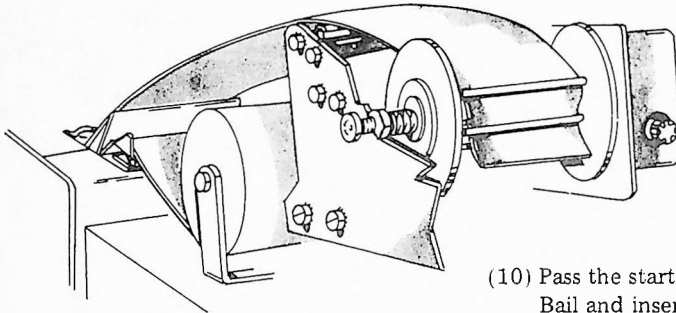

Figure 3-3. Paperwinder Threading Diagram
If a Paperwinder assembly is being used, leave the Power Switches in the OFF position and complete the threading procedure described below. Refer to Figure 3-3.
- (10) Pass the starting edge of the paper over the Paperwinder Bail and insert it between any two rods on the Take-up Reel, as shown in Figure 3-3.
- (11) Turn the Paperwinder Power ON/OFF Switch to the ON position. (The Paperwinder Reel will begin to rotate, taking up any slack in the paper.)